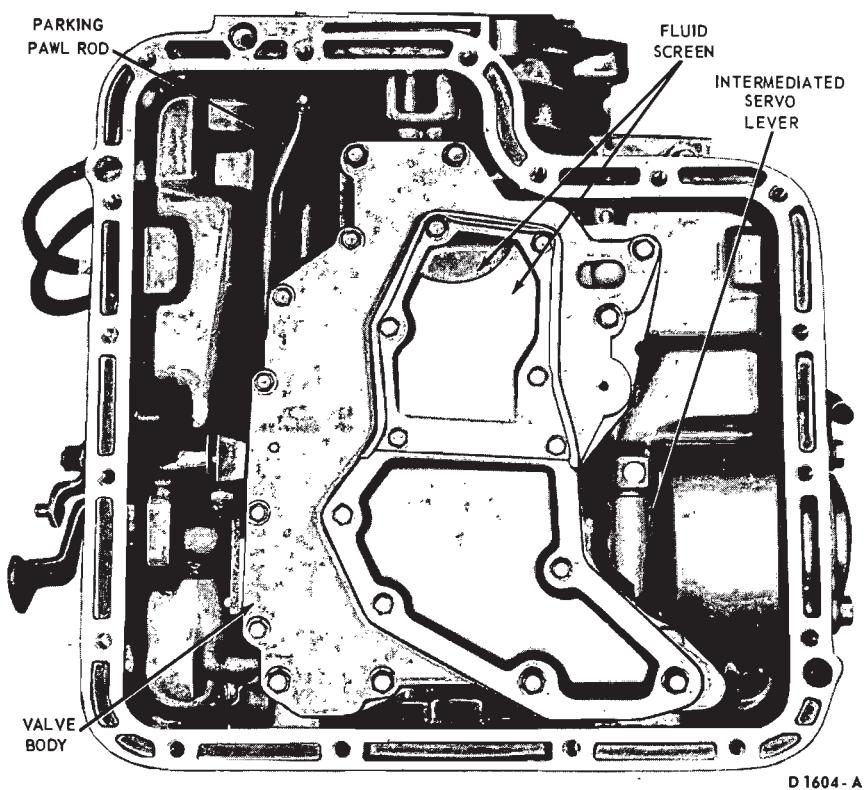

FIG. 23—Transmission with Pan Removed
3. Remove the 8 valve body attaching bolts (Fig. 23). Lift the valve body from the transmission case.